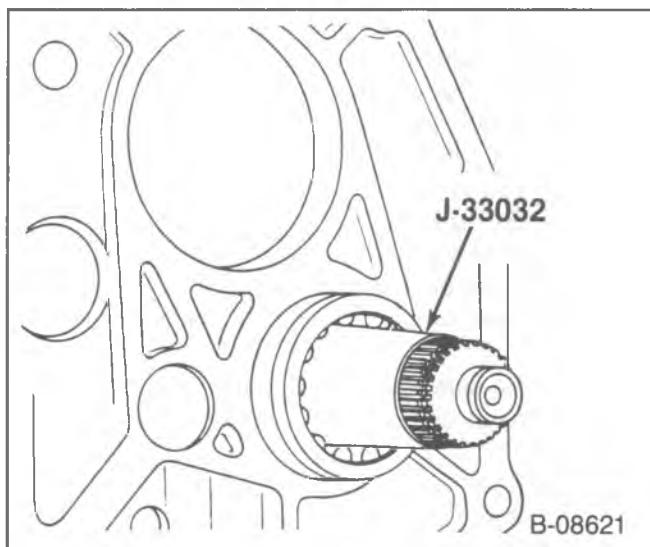

Figure 142—Installing Tool J-33032
4. Countergear rear bearing (635), (figures 142 and 143).